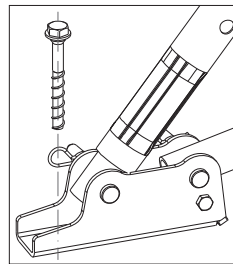

Fig. C2.03
3. Fix Base Plates of push-pull props and kickers to load-bearing surface, e.g. with PERI Anchor Bolts 14/20x130, Item no. 124777. (Fig. C2.03)